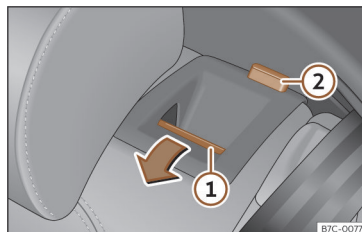

Fig. 112 Rear seat: folding the backrest.
- Press the unlock button»» Fig. 112 ① forwards and at the same time fold the backrest down. The rear seat backrest is not engaged when the red marking of the button ② is visible.
The rear seat backrest is not engaged when the red marking of the button»» Fig. 112 ② is visible.